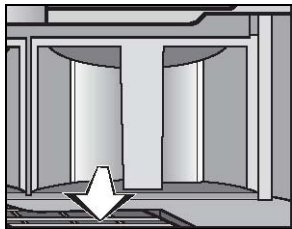

Figure 3-7: Pull Water Tank Out
2. Pull the water tank out. See Figure 3-7.